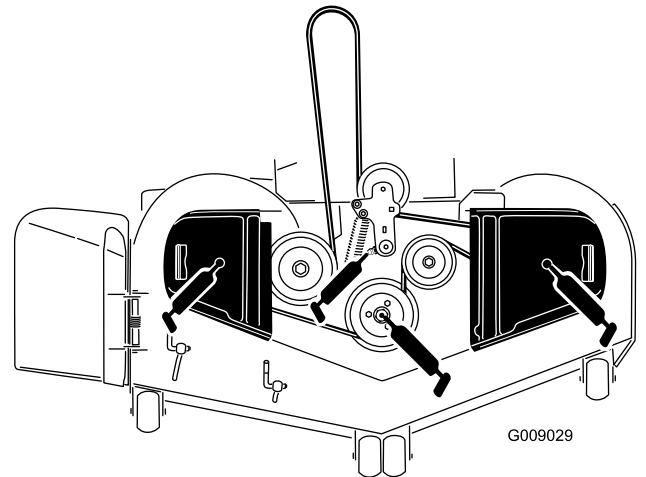

Figure 39
3. Grease the mower-deck-idler pulley pivot until grease come out the bottom (Figure 39).
4. Grease the 3 spindle bearings until grease comes out the lower seals (Figure 39).
5. Grease the drive-belt-idler arm (Figure 39).